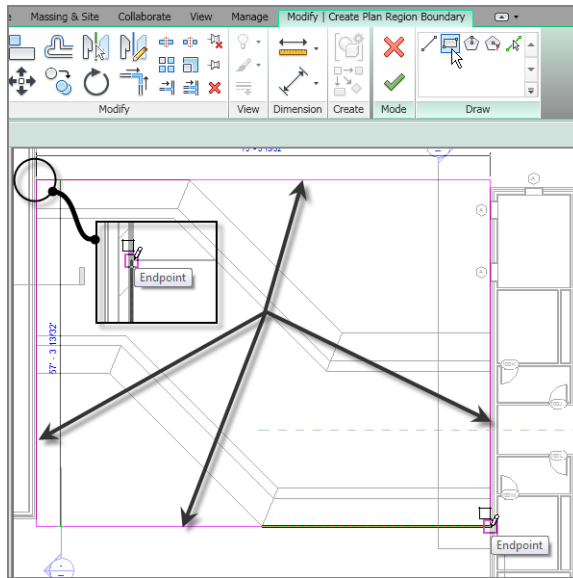

FIGURE 7.35: Creating the rectangle that forms the perimeter of the plan region
- 3. On the Draw panel, click the Rectangle button, as shown in Figure 7.35.
4. Draw a rectangle around the corridor (see Figure 7.35). Be sure to snap to the exact points where the roof meets the taller walls on the east and west wings.